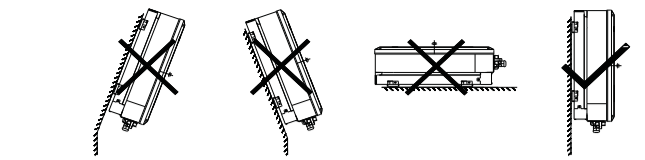

Figure 2 Installation position
- (1) The environment temperature is between -25°C ~ 60°C .
- (2) The installation surface should be perpendicular to the horizontal line. Refer to Figure 2.